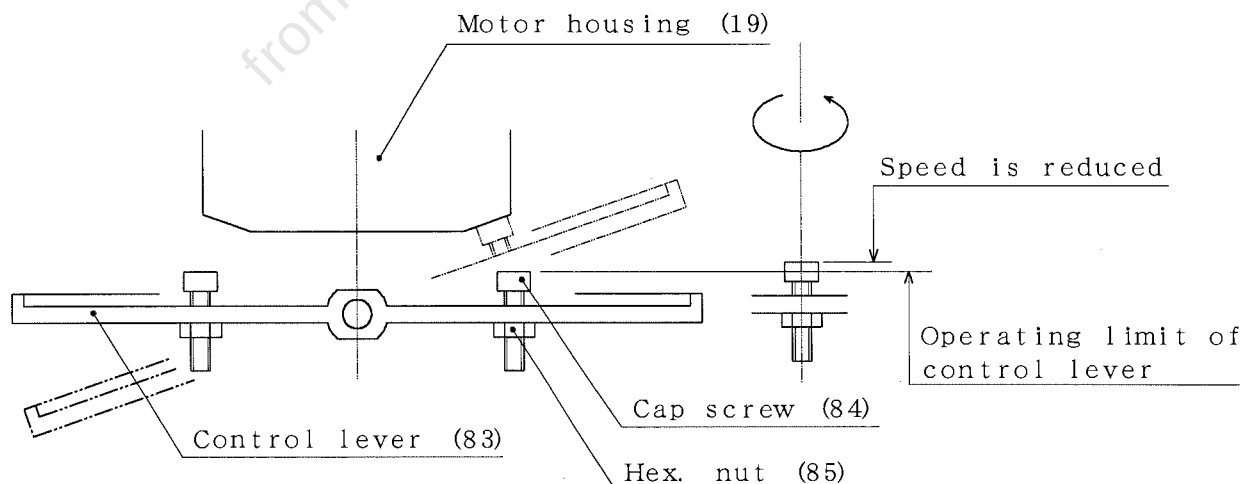

Fig. 10
9. Adjustment of Speed and Operating Limit of Control Lever (See Figure 10)